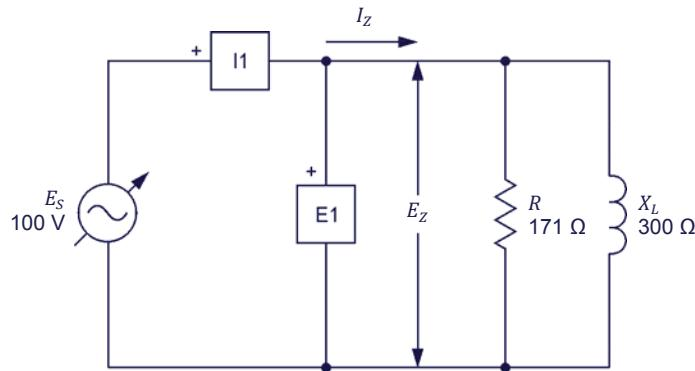

Figure 2-21. Parallel ac circuit containing a resistor and an inductor.
- 46.** Set up the circuit shown in Figure 2-21.